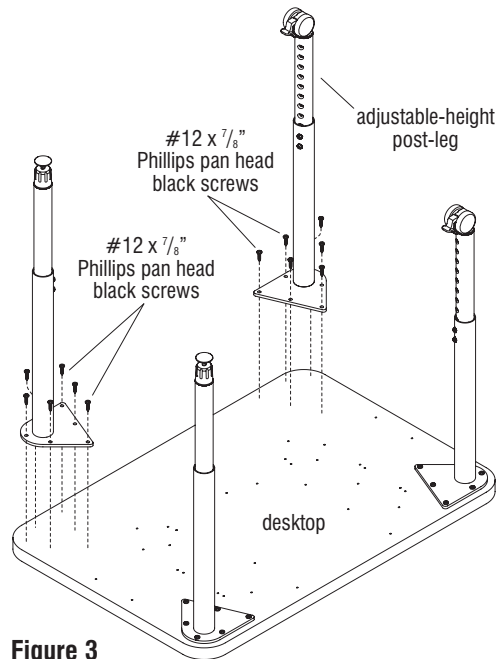

Figure 3
2. Position each post-leg over the pre-drilled mounting holes in the underside of the tabletop or desktop as illustrated. Secure the post-legs to the top using six **#12 x 7/8" Phillips pan head black screws** through each **bell-shaped base** (Figures 3 & 4).